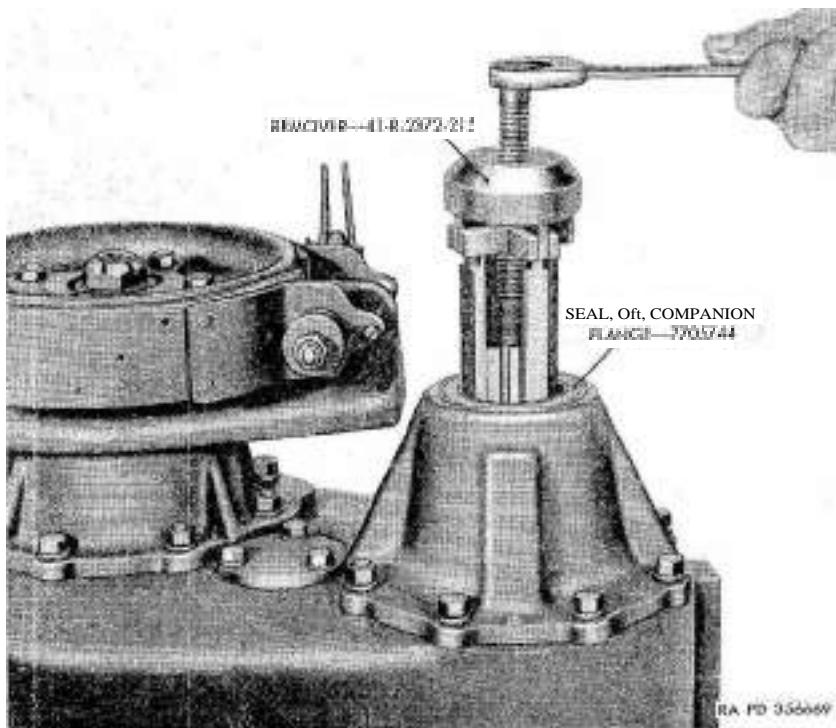

Figure 125. Removing companion flange oil seal.
a. *General.* To facilitate disassembly of the rear axle output shaft bearing retainer assembly, it is necessary to remove the companion flange and companion flange oil seal before the bearing retainer assembly is removed from transfer case. This is necessary in order to provide a support for the screw in remover 41-R-2372-215 (fig. 125).
- (4) Remove companion flange oil seal (G) with remover 41—R-2372-215 (fig. 125).
- (5) Remove screws, nuts from studs, and lock washers, which hold rear axle output shaft bearing retainer assembly to transfer case. Remove retainer assembly and gasket from transfer case.